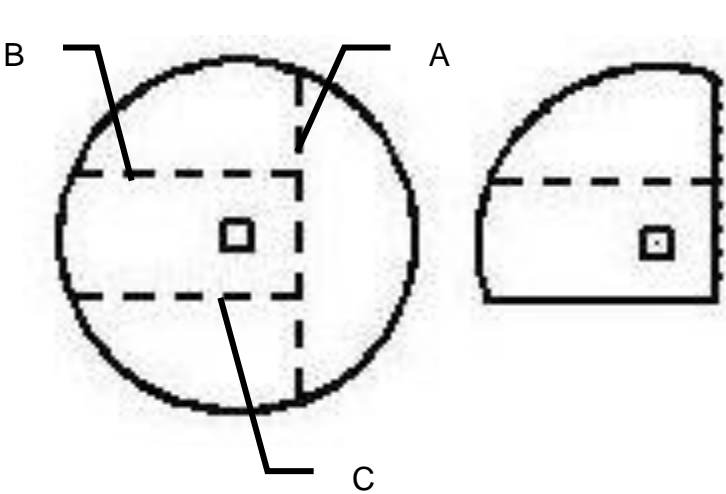

Figure 47a
1. The moisture discs (006-4641H) will both need to be cut on line A. (Figure 47a) One disc will need to be cut on line B and one disc on line C.